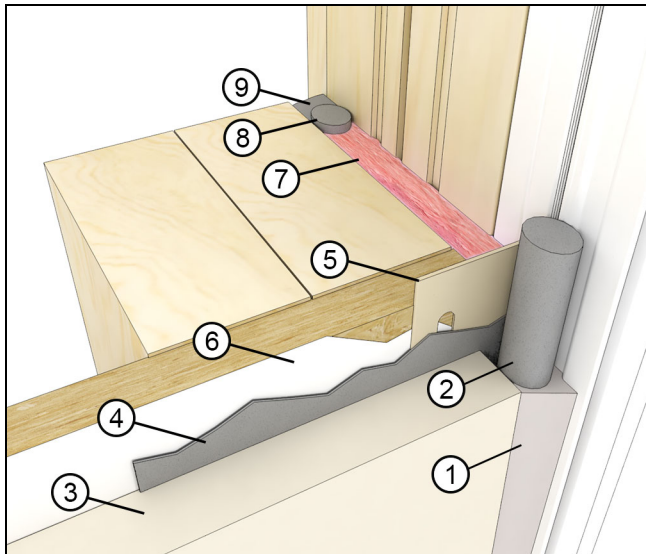

Figure 49
1. For ALL applications: Once the exterior finish such as siding or brick veneer is installed, apply bead of sealant between the finish and the frame exterior or casing along the sides. Apply additional beads approximately 1"- 2" (25-51) at the ends on top of the drip cap. Use a backer rod when necessary. See Figure 49 and Figure 50.